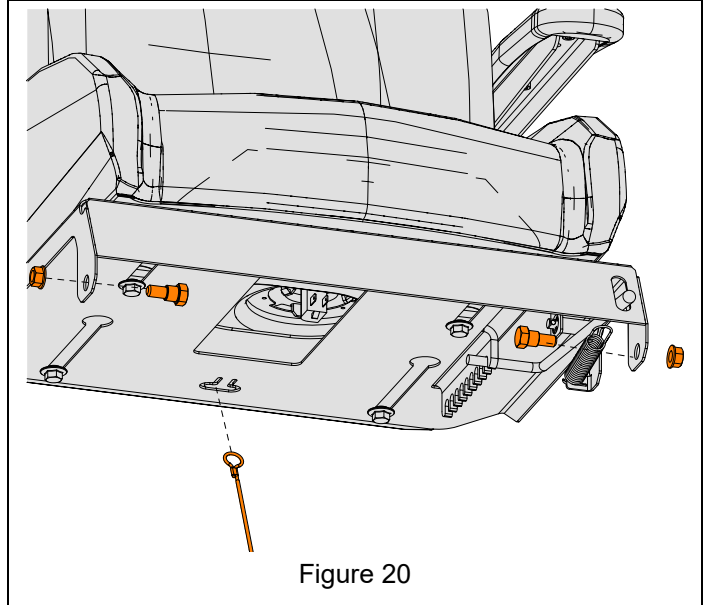

Figure 20
2. Reconnect seat plate and tether with hardware removed previously. See Figure 20.